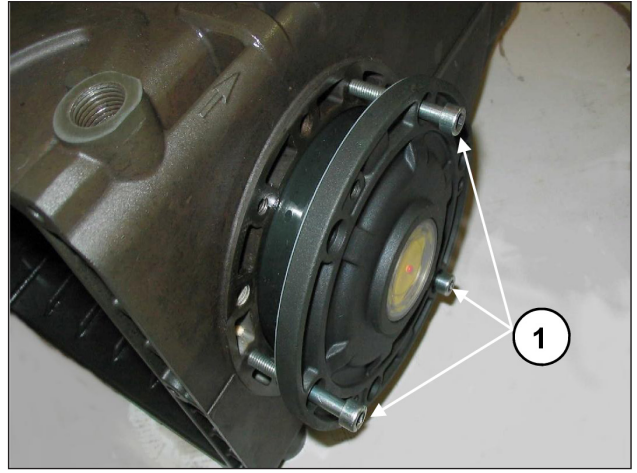

Fig. 8
To facilitate filling of the first section and relative press fitting of the covers on the casing, we recommend using 3 partially-threaded M6 x 40 screws (Fig. 8, pos. ①), then completing the operation with the screws supplied (M6x16).
To transition the two side covers closer to the casing, it is possible to use 3 M6x40 screws for the first positioning phase, as already indicated above (Fig. 8), and the screws provided for final fastening.